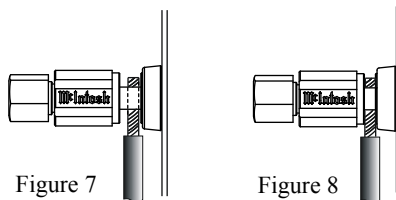

Figure 7
8. Connect the Loudspeaker hookup cables to the MC312 COM (Negative) Output Terminal and Positive Output Terminal identified as 2Ω (ohms), 4Ω (ohms) or 8Ω (ohms) connection to match the impedance of the Loudspeaker, being careful to observe the correct polarities. Insert the spade lug connector or prepared section of the cable end into the terminal side access hole, and tighten the terminal cap until the cable is firmly clamped into the terminals so the lugs or wire cannot slip out. Refer to figures 7 and 8.